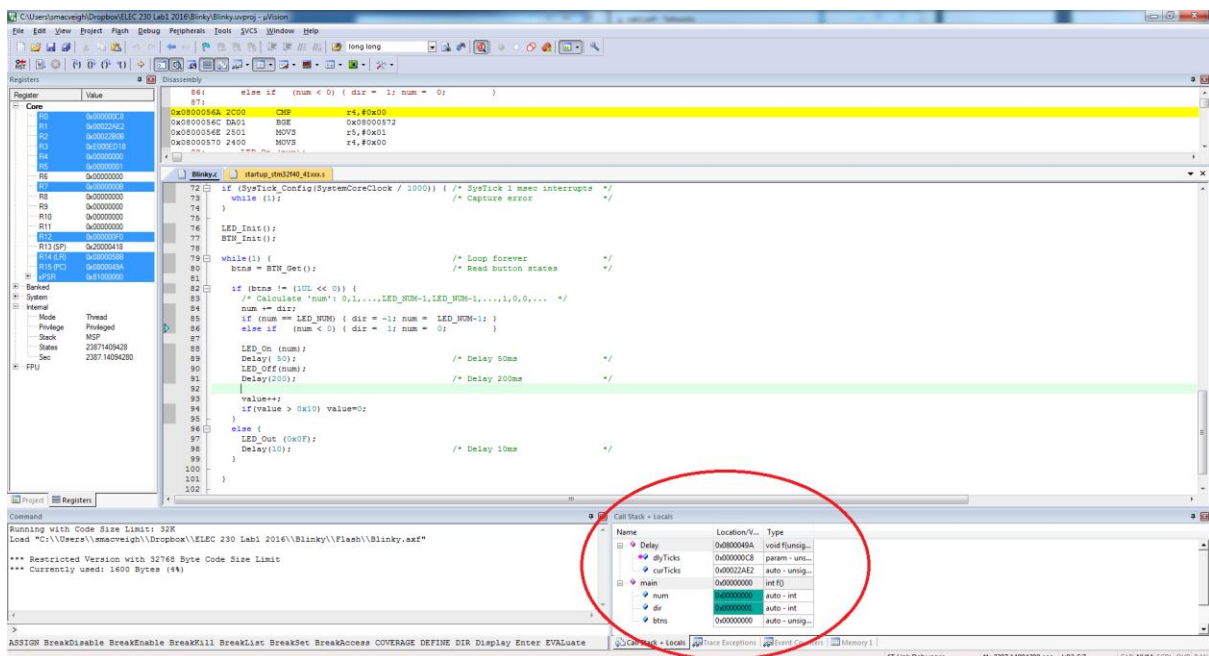

Figure 10: Debug Mode Screen
Compile and download the code to the board. Click to enter/exit debug mode. The debug screen is shown in Figure 10.
- The contents of local variables can be monitored in the **Call Stack + Locals** window (Figure 10 circled in Red).